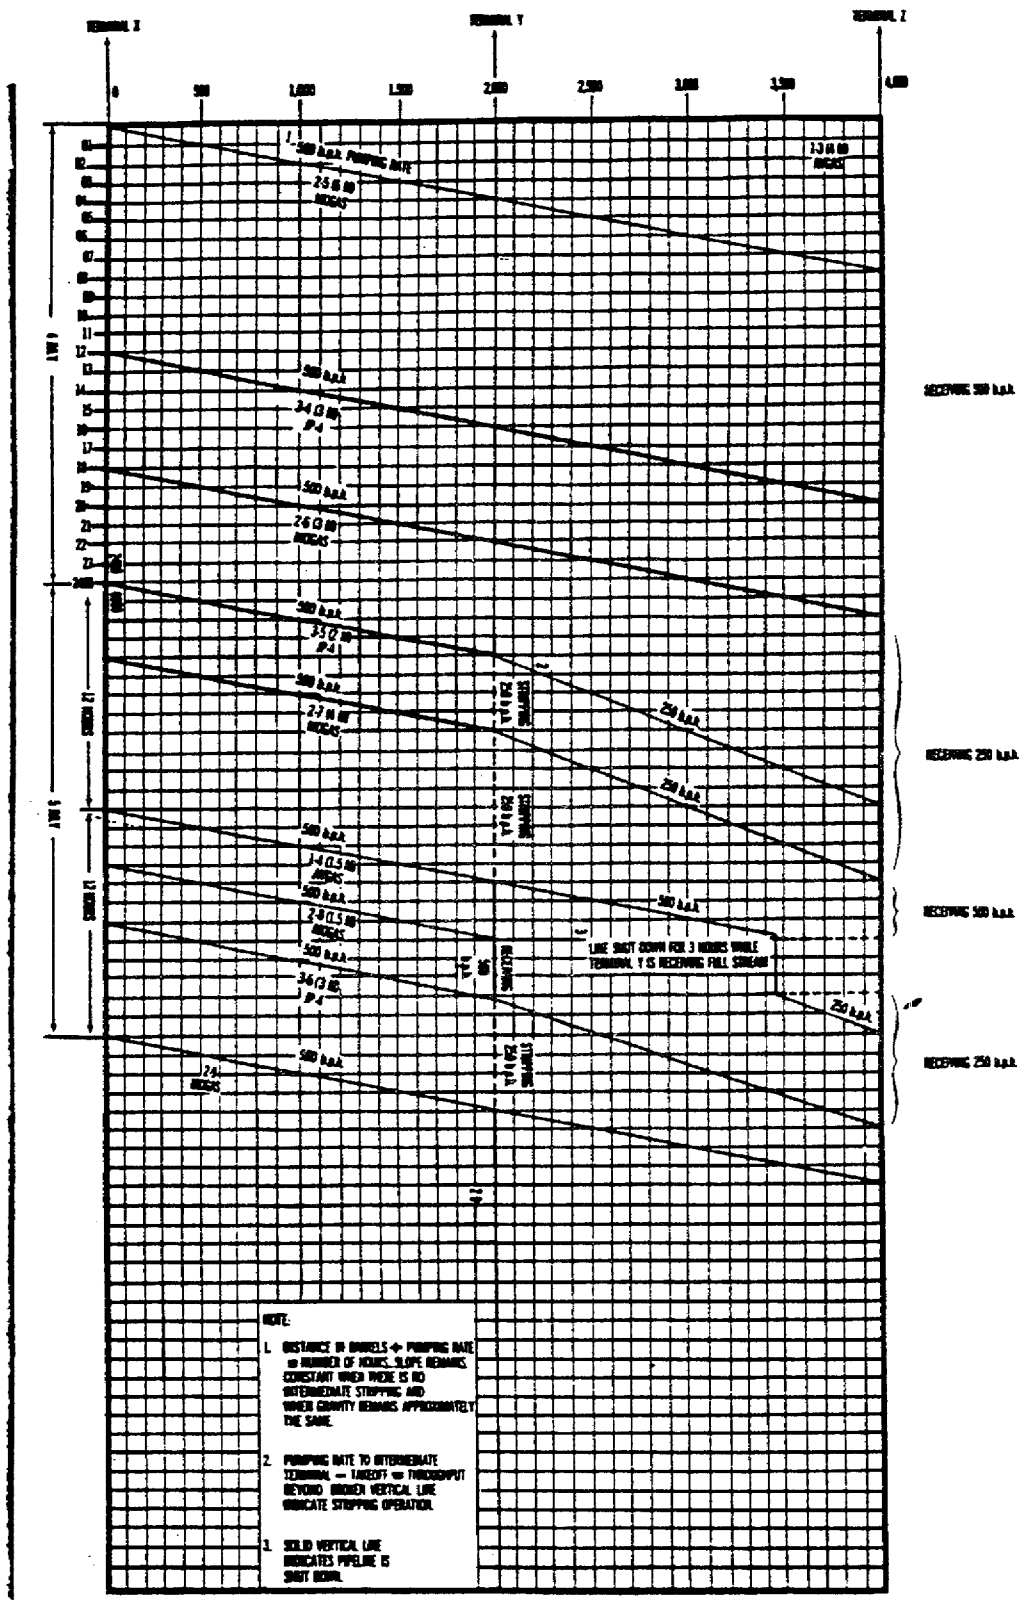

Figure 7. Monthly pipeline schedule.
a. General. The monthly pipeline schedule (fig 7) is based on requirements to maintain stock levels and shows programmed movements through the pipeline. When it is known what products are required for the 30-day period, a schedule can be prepared to determine the time it will take for the product to reach its destination after it has been started into the pipeline. This schedule is merely a graph which shows line capacity in barrels (distance) plotted against time in hours.
(1) The number of hours a line is to be pumped each day must be determined before the schedule is made. Time is shown from the beginning to the end of a given working day. The chart is drawn with the vertical axis representing the time period. Normally 1 inch on the vertical time axis represents 1 hour, and 24 major units represent a pipeline day (fig 7).
(2) The horizontal axis is drawn to show linefill in distance in barrels. Normally, 1 inch on the horizontal axis represents 100 barrels (fig 7).
(3) Terminals are located by their respective linefill distance downstream from the base terminal and are plotted vertically.
(4) Each batch is labeled as to product and is identified by batch number. Each type of product is marked on the graph with a distinctive color. Suggested colors are as follows: AVGAS, blue; MOGAS, red; JP-4, green; kerosene, yellow; diesel, brown.
(5) The distance in barrels divided by the pumping rate equals the number of hours it will take for a given batch to reach a designated place (see NOTE 1, fig 7).
(6) The slope of the throughput lines remains constant when there is no intermediate stripping and when gravity remains approximately the same. An example of this is shown in figure 7. The batch designated 2-5 (6M) is shown being pumped from Terminal X to Terminal Z at a constant rate of 500 barrels per hour (BPH).
(7) Stripping of product at any intermediate terminal is indicated by changing the rate of flow. This is shown on the graph as a change in the angle of the throughput lines. Pumping rate to an intermediate terminal minus takeoff equals the throughput beyond.
(8) A broken vertical line indicates a stripping action (see NOTE 2, fig 7). In figure 7, batch 3-5 (2M) is being pumped from Terminal X at 500 BPH. At Terminal Y, 250 BPH is being stripped off. The remaining 250 BPH is being pumped on to Terminal Z.
(9) A broken horizontal line indicates that the pipeline is shut down.
(10) The points at which the sloping lines intersect the vertical lines representing terminals and stations indicate scheduled arrival times.
(11) When all of the throughput lines have been drawn, the graph represents all scheduled pumping and delivery operations for the month.
c. Example. Figure 7 shows an example of a 2-day portion of a monthly pipeline schedule. Although the monthly pipeline schedule is the master plan on which the daily pumping schedule, graphic progress chart, and daily pumping order are based, figure 7 may be explained by reading the daily pumping order for 5 July given in figure 8 and paragraph 5.